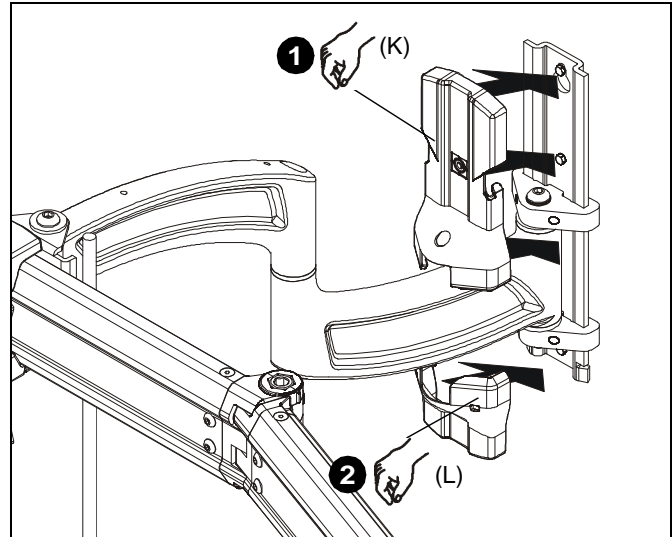

Figure 18
- Install top cover (K) onto upper section of wall plate. (See Figure 18)
- Install bottom cover (L) onto lower section of wall plate. (See Figure 18)